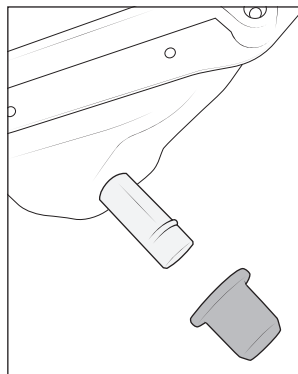

Figure 8
- D. Screw in the supplied aluminum Insulator Dowel and fit with rubber grommet found on the factory airbox (fig. 8).